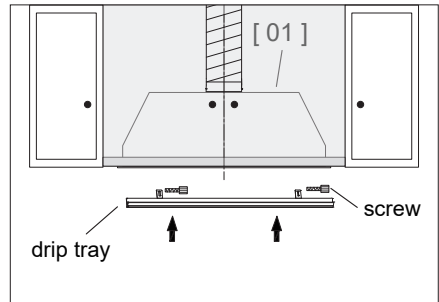

Fig 4
1. Install the **drip tray** back to the range hood and secure it with screws. (Fig 4)